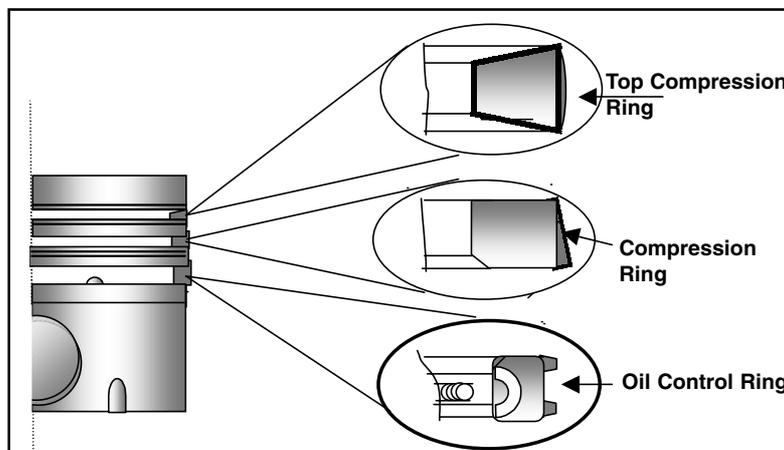

Fig.9-40
- Install correct rings in their proper sequence. (Refer to Fig.9-40)